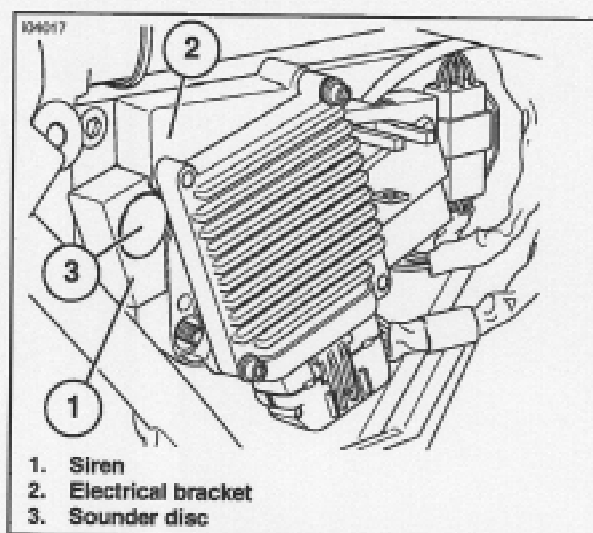

Figure 10. Siren and Electrical Bracket Installed (Touring Models)
7. See Figure 10. Install the electrical bracket assembly with the siren back onto the studs on the side of the battery box. Install the two flange nuts onto the studs, and tighten to 36-48 in-lbs (4.1-5.4 Nm).